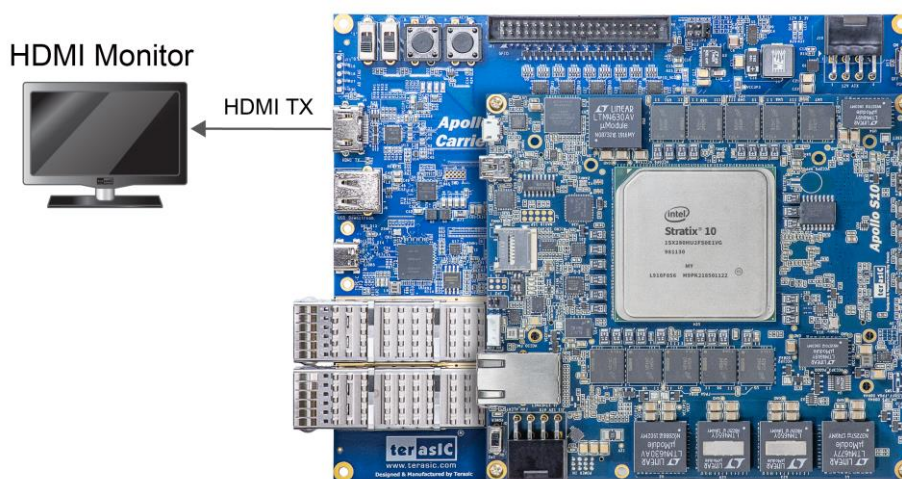

Figure 5-2 Test color pattern is shown on the HDMI monitor
7. Check if the test color pattern is shown on the HDMI monitor (See **Figure 5-2**).